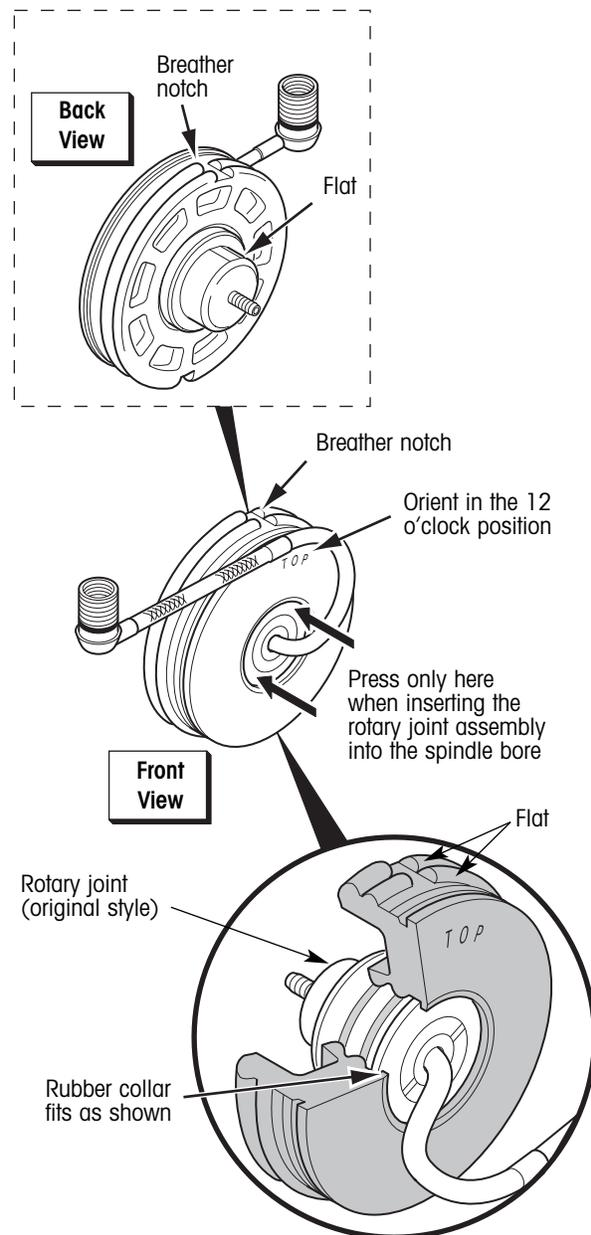

Figure 38. Original style rotary joint assembly
1. If necessary, install the rotary joint in the rubber collar. Align the breather notch in the rubber collar with the flat on the rotary joint (figure 38).
**⚠ CAUTION:** When inserting the rotary joint assembly into the spindle bore in the next step, do not push on the steel air tube. Carefully push only on the face of the rotary joint where it meets the rubber collar (figure 38).
the rotary joint body. Orient the flat on the rotary joint body (located near the clamp) to the 12 o'clock position and press the rotary joint assembly into the spindle bore. The assembly is seated when the outer edge is almost flush with the end of the spindle (figure 38).